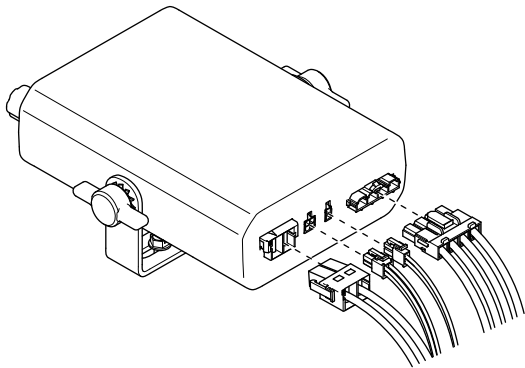

Figure 15
3. Connect the wire harness controller connectors to the controller (Figure 15).